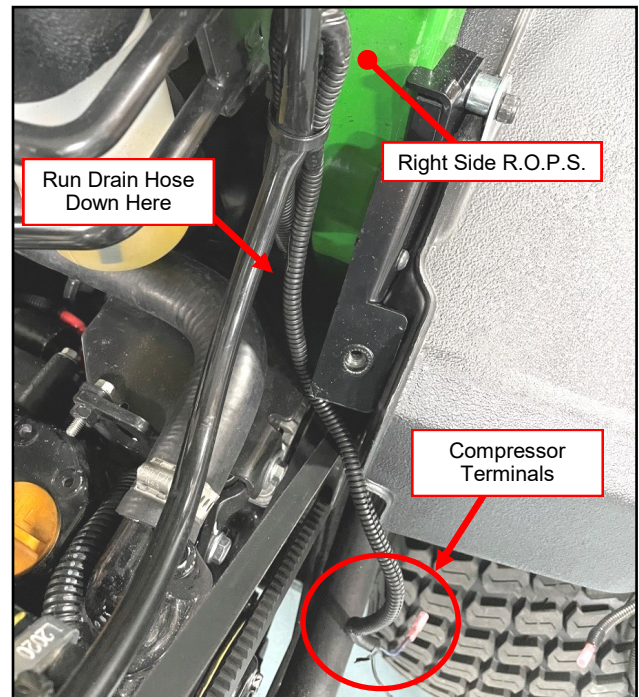

Fig. 2.27a (Routing Drain Hose)
**2.27** Run drain hose for AC Unit down in front of the alternator and out the bottom of the vehicle. Keep hose away from moving components and hot engine parts. See Figures 2.27a, b, and c for routing recommendations. Use provided Wire Ties as needed.